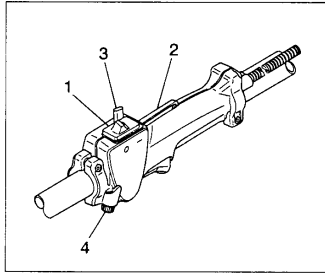

Fig. 2-5
## Starting (Fig. 2-5)
1. Set ignition switch (1) to ON position. (Fig. 2-5)
Throttle limiter (4) is to adjust maximum opening of throttle. At the factory it is adjusted at its full opening. (Fig. 2-5)